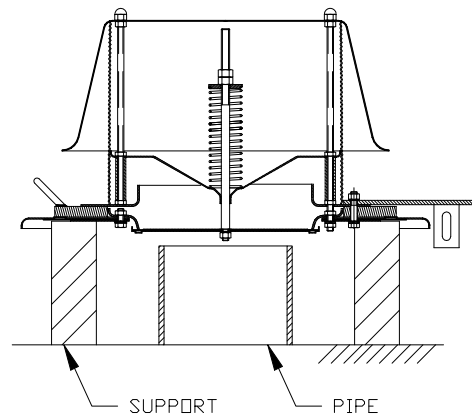

Figure 13: Pallet Support (2450A)
4. Using the handles [30] on the weight plate [29], or the edges of the pallet [2], lift vertically. Set the cover on a short length of pipe (minimum 6" high) (Figure 13). This will elevate the retainer plate peripheral guides above the table so they aren't bent or damaged.